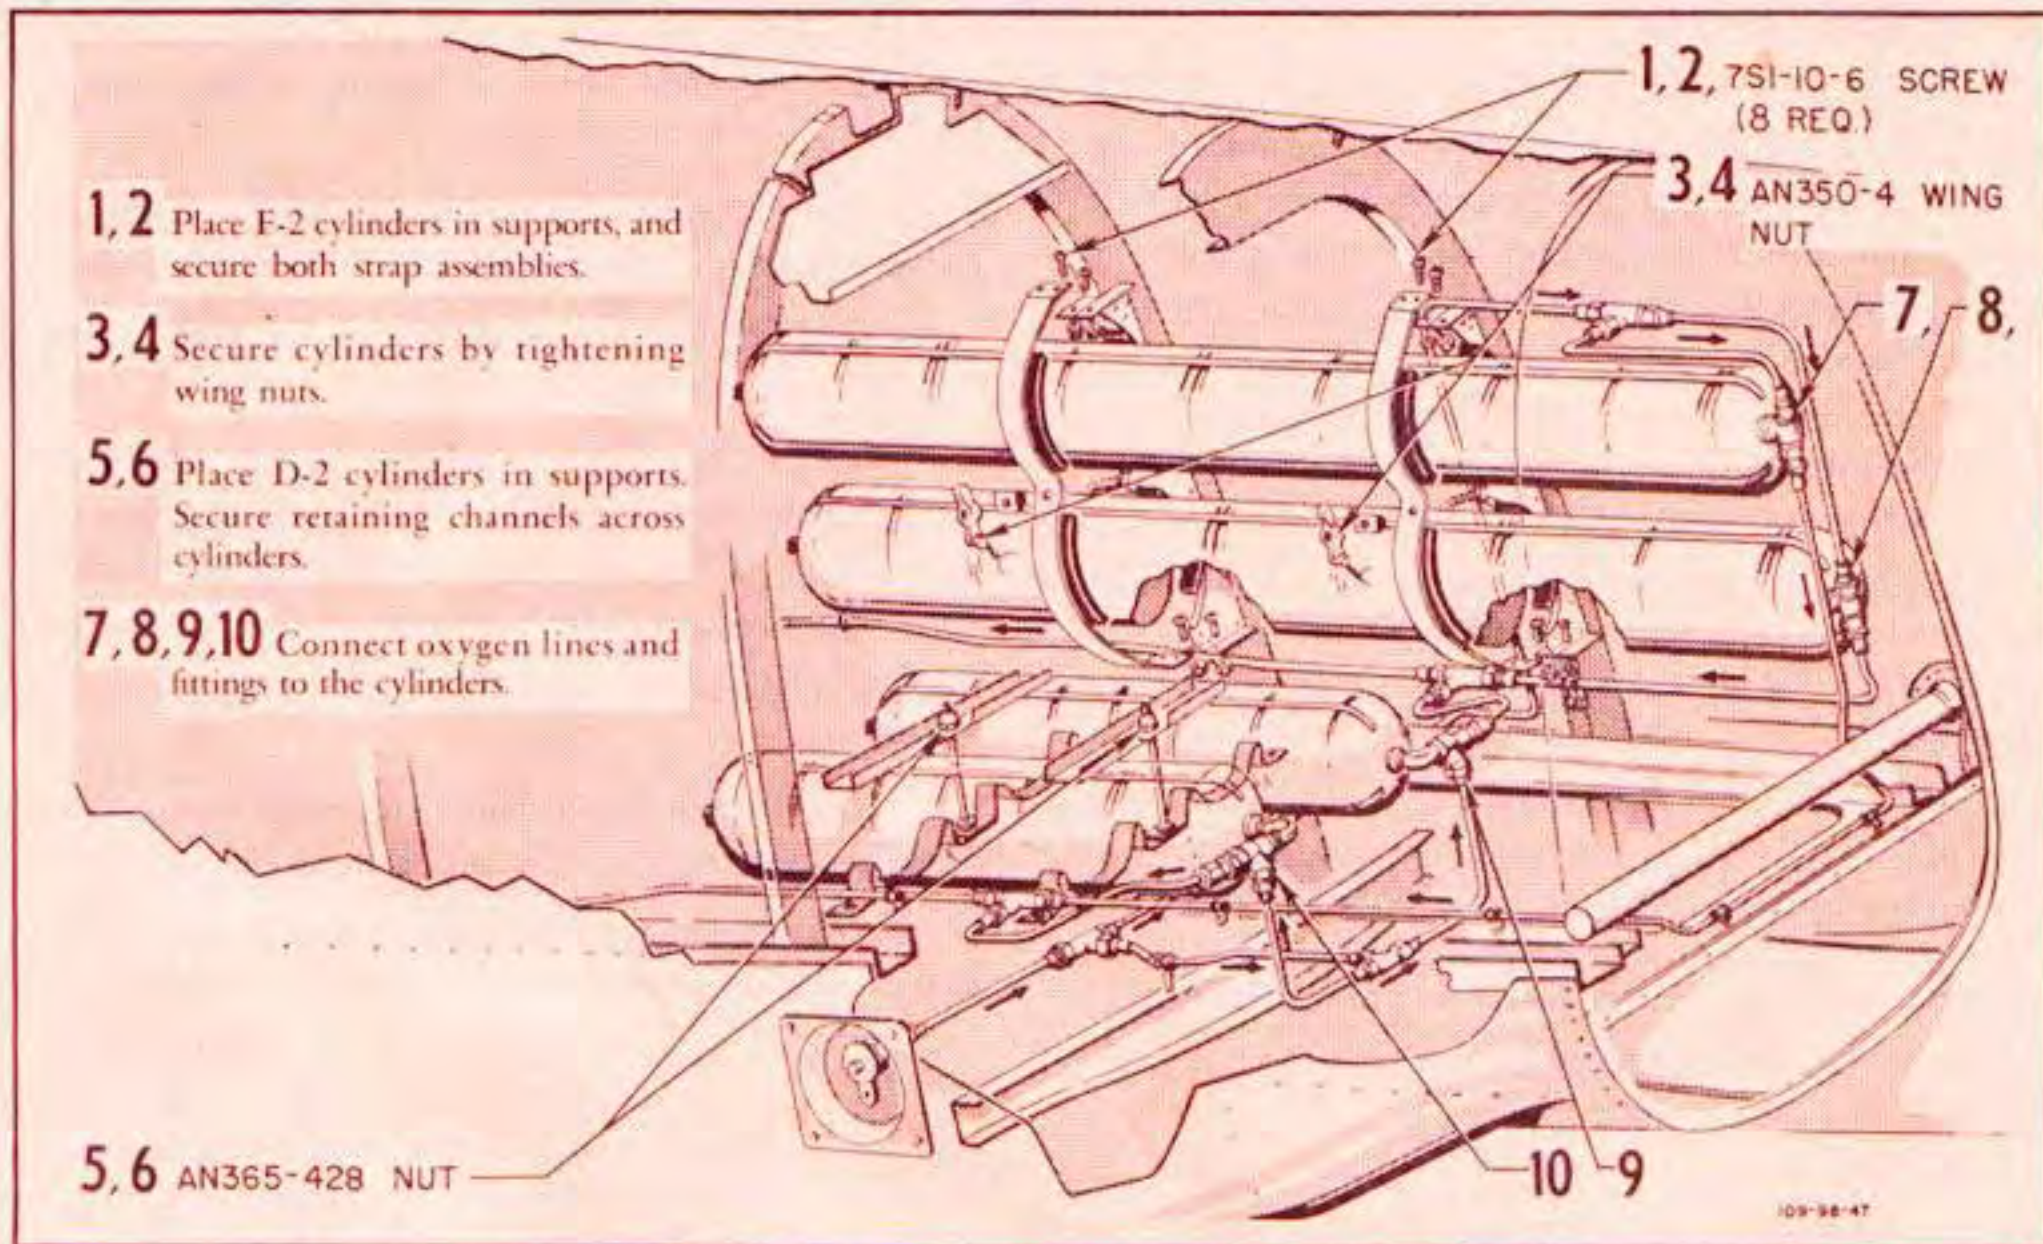

Figure 453—Installation and Removal of Oxygen Cylinder
(3) FINAL CHECK BEFORE INSTALLATION.—Examine cylinders for chipped, scarred, or corroded areas. If necessary, refinish with zinc chromate primer, Specification No. AN-TT-P-656. Replace all weakened and dented cylinders.
(4) INSTALLING AND REMOVING OXYGEN CYLINDERS. (See figure 453.)